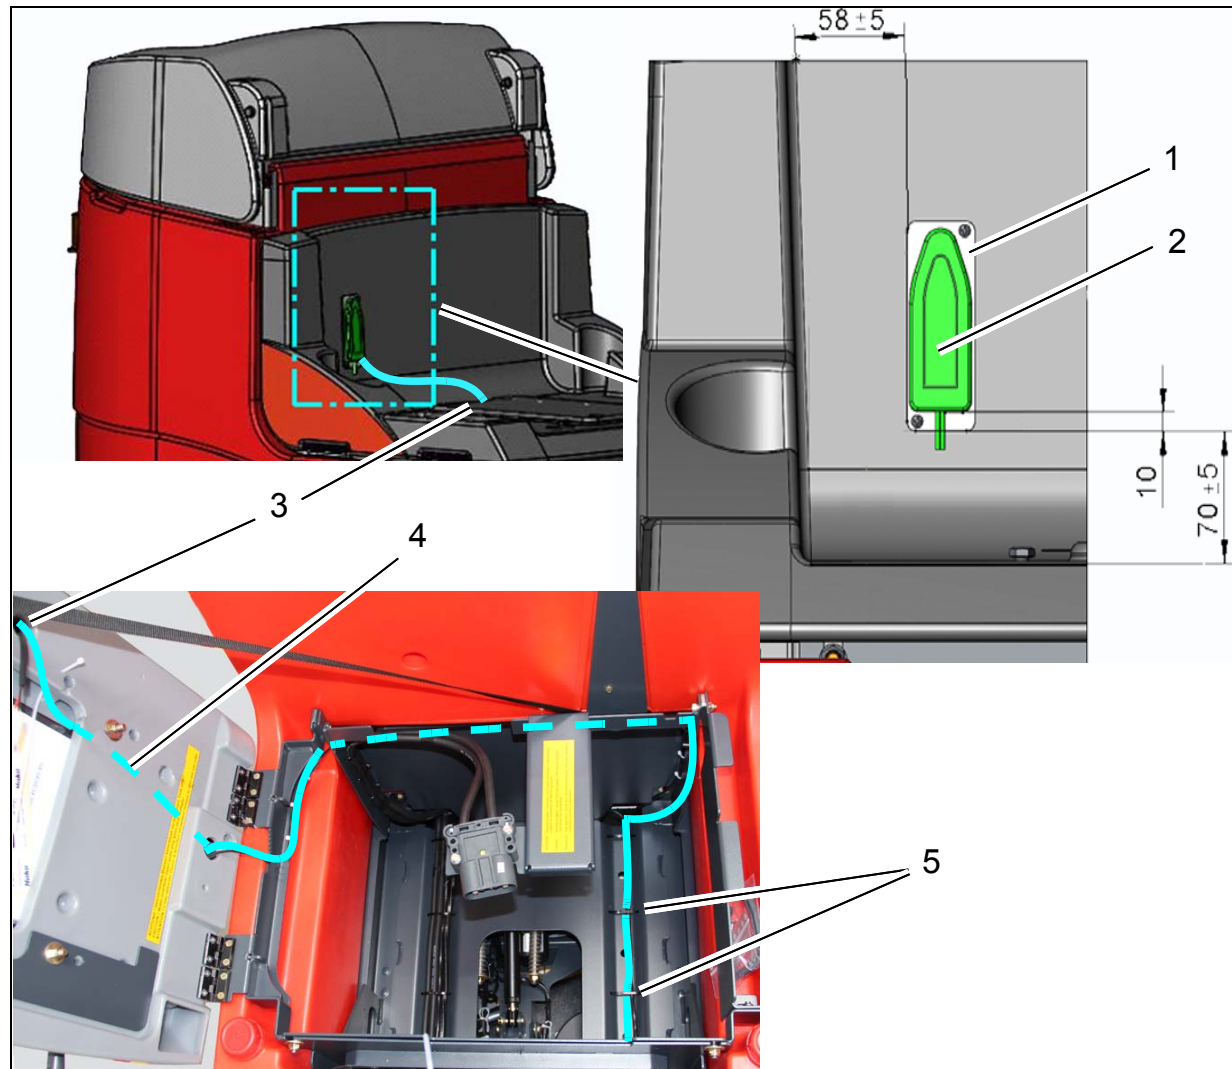

Fig. 9
1. Install the plate at the rear wall of the seat shell using two sheet-metal screws according to the sketch (Fig. 9/1).
2. Clean the adhesive surface and use the sticker to fix the antenna to the plate (Fig. 9/2).
3. Guide the antenna cable through the hole in the centre of the seal shell (Fig. 9/3).
4. Route the antenna cable along the seat contact switch cable (Fig. 9/4).
5. Route the antenna cable at the bottom of the battery compartment through the available cable ties into the electronics compartment (Fig. 9/5).